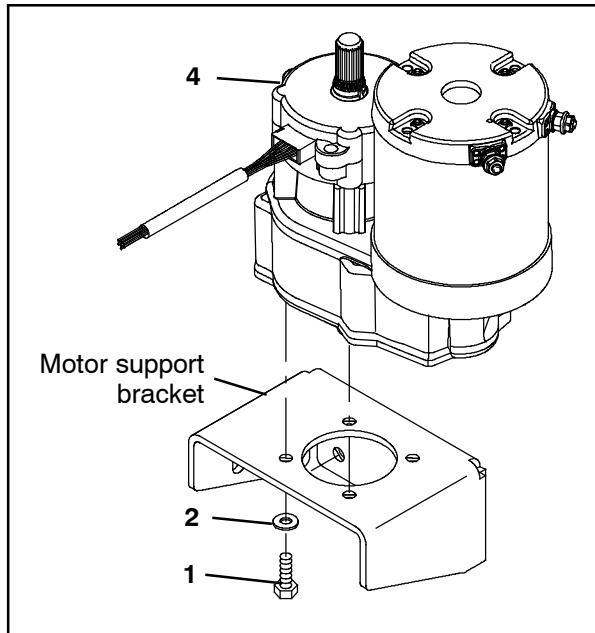

FIG. 7
1. Use four M6 hex screws (1) and four flat washers (2) install the power steering motor (4) onto the motor support bracket. (Fig. 7)